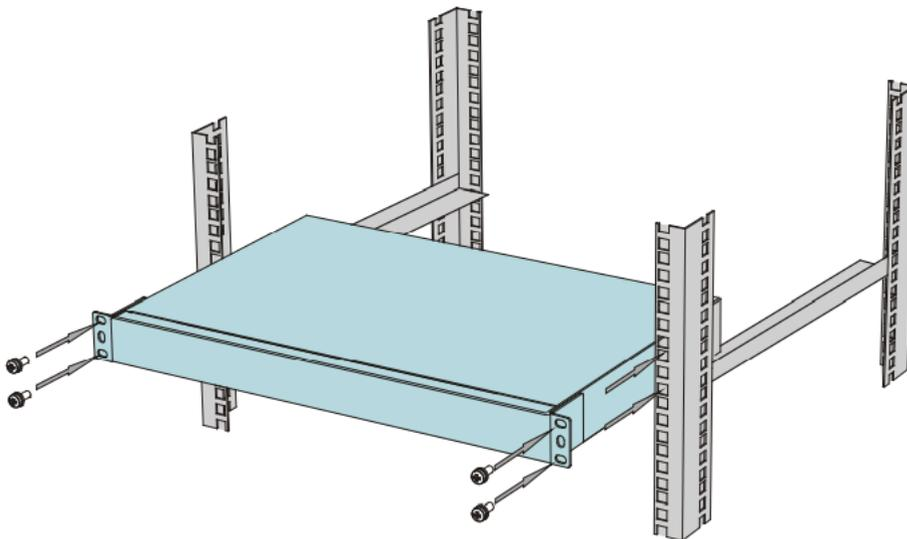

Figure 6: Installing the device on a switch cabinet
- Attach the rack ears to the switch cabinet. See Figure 6.